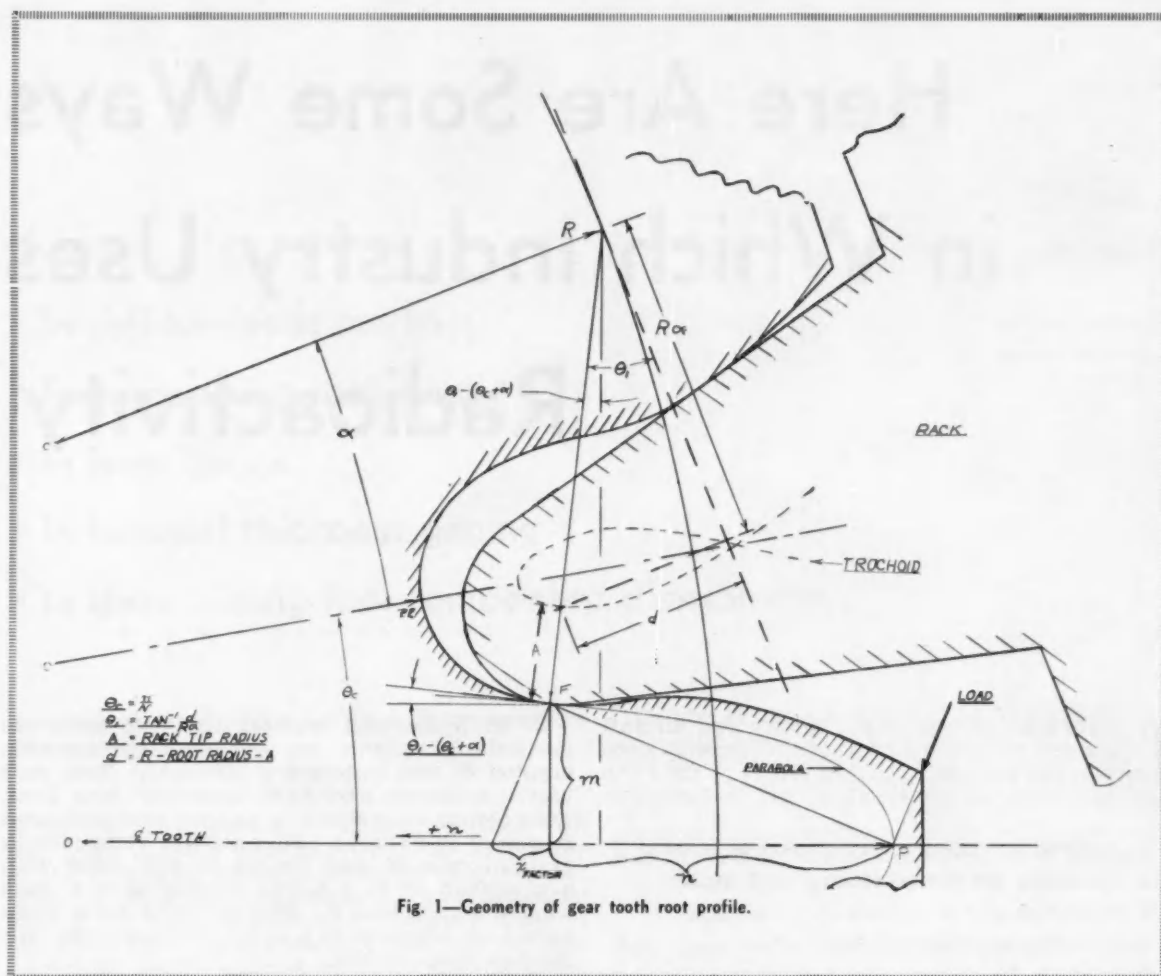

Fig. 1—Geometry of gear tooth root profile.
Fig. 1—To increase pressure rise rate, the squish chamber increases turbulence. Fast burning also results from the short flame travel of the nonturbulent chamber.
A squish chamber (Fig. 1) provides turbulence and gives smooth cycle-to-cycle operation. However, as the squish effect is increased, the power goes down.
With this experience as a springboard, further designs are being tested. The present design is shown in Fig. 1.
**POWER**—Today's power level requirements for MAPU's are shown in Fig. 1. About 40% of the units fall in the under 10-hp category, approximately 33% in the 10-20-hp class, and the balance in the 20-40-hp category, with a few going beyond the 40-hp mark. These figures reflect present missile capabilities. Most units in the under 10-hp classification have application in air-to-air missiles. As the use of air-to-air missiles declines and missile technology advances, a growth should take place in the percentage of units in the 20-hp class. The makeup of this power is primarily hydraulic and electric in roughly a 60-40 ratio. In a few applications, engine fuel pumping is added. With increases in missile Mach number and with continued emphasis on transistorized electrical circuitry, an increase in the ratio of hydraulic to electric power can be expected.
Fig. 1—About 40% of today's missile accessory power units have less than 10 hp. A rise in the percentage of units in the 20-hp category is to be expected when air-to-air missiles decline and missile technology advances.
Corresponding to Fig. 1, which illustrates the situation for a basic rack with a full tip radius  $A$ , the rectangular coordinates of the point on the fillet  $F$  with respect to point  $P$  as an origin and tooth centerline as an axis are as follows: